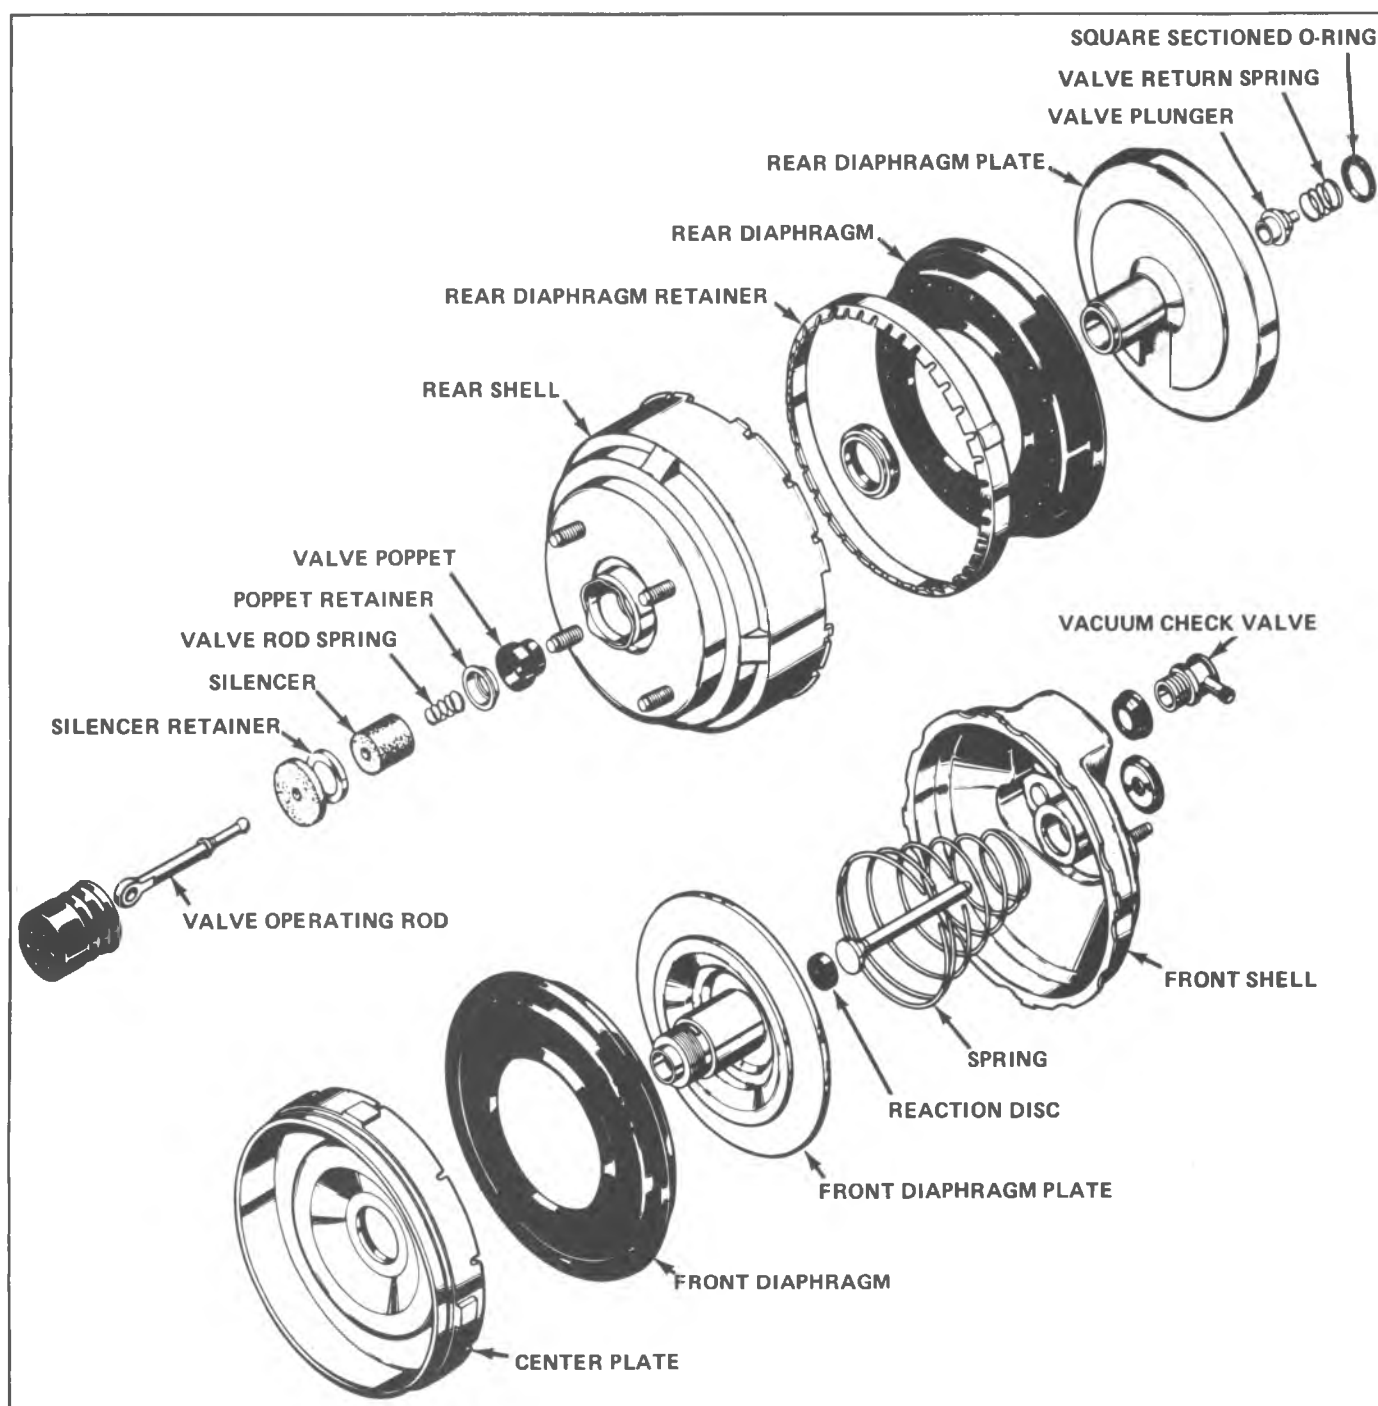

Fig. 5-5B--Diaphragm and Plates
24. After the two (2) plates have been loosened, remove the plates from Tool J-22839 and place on a bench with the front plate down. Unscrew the rear plate completely and carefully lift it off the front plate hub, grasping the air valve plunger and valve return spring as the parts are separated (fig. 5-5B).